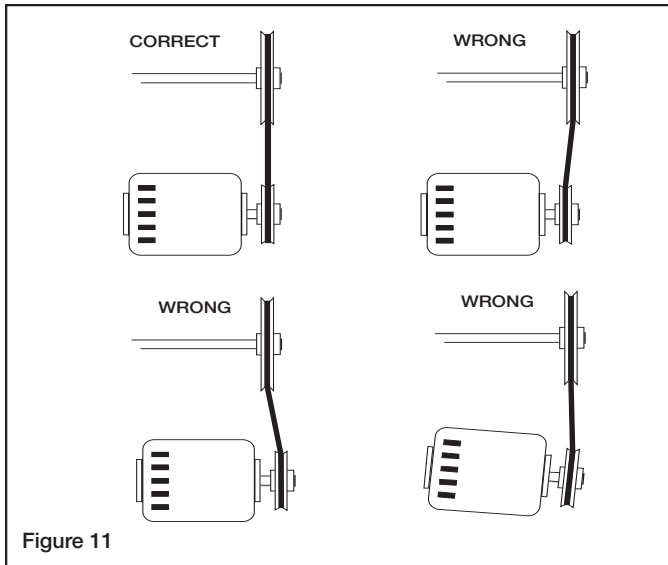

Figure 11
4. **For XIB Fans:** If adjustments are made, it is very important to check the pulleys for proper alignment. Misaligned pulleys lead to excessive belt wear, vibration, noise, and power loss. (see Figure 11 on next page).